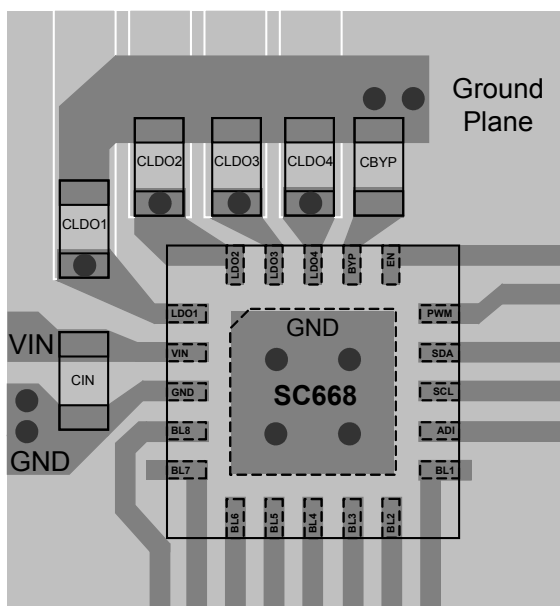

Figure 16 — Recommended PCB Layout
The layout diagram in Figure 16 illustrates a two-layer PCB layout for the SC668 and supporting components. Following fundamental layout rules is critical for achieving the performance specified in the Electrical Characteristics table. The following guidelines are recommended when developing a PCB layout:
- The following capacitors —  $C_{LDO1}$ ,  $C_{LDO2}$ ,  $C_{LDO3}$ ,  $C_{LDO4}$ , and  $C_{BYP}$  should be grounded together. Connect these capacitors to the ground plane at one point near the SC668 as shown in Figure 16.